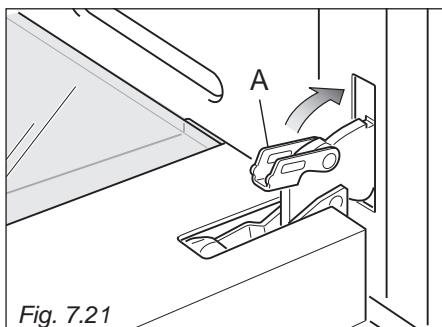

Fig. 7.21
4. Fully close the levers "A" on the left and right hinges, as shown in the figure 7.21.